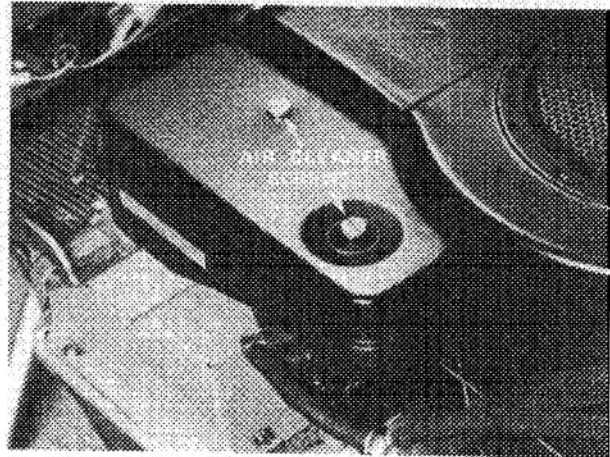

Figure 28
1. Open the hood, remove the screws holding air cleaner in place and lift complete air cleaner assembly off carburetor (Fig. 28).